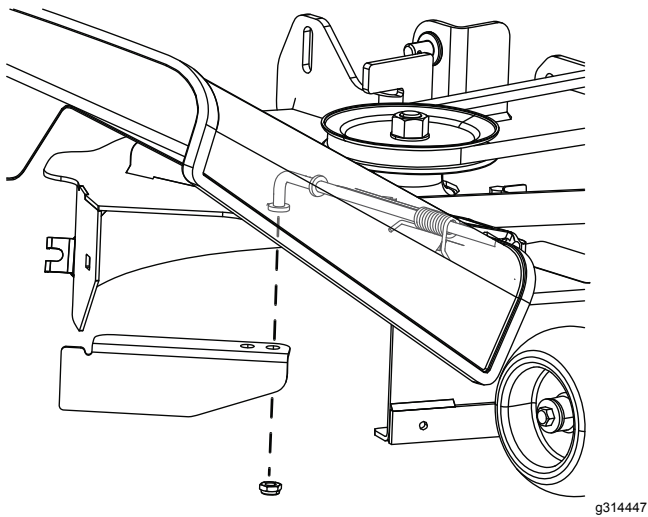

Figure 1
4. Remove the nut securing the cutoff baffle to the deck and remove the cutoff baffle (Figure 1).
3. Install the nut on the discharge rod, where it was originally removed (Figure 1).